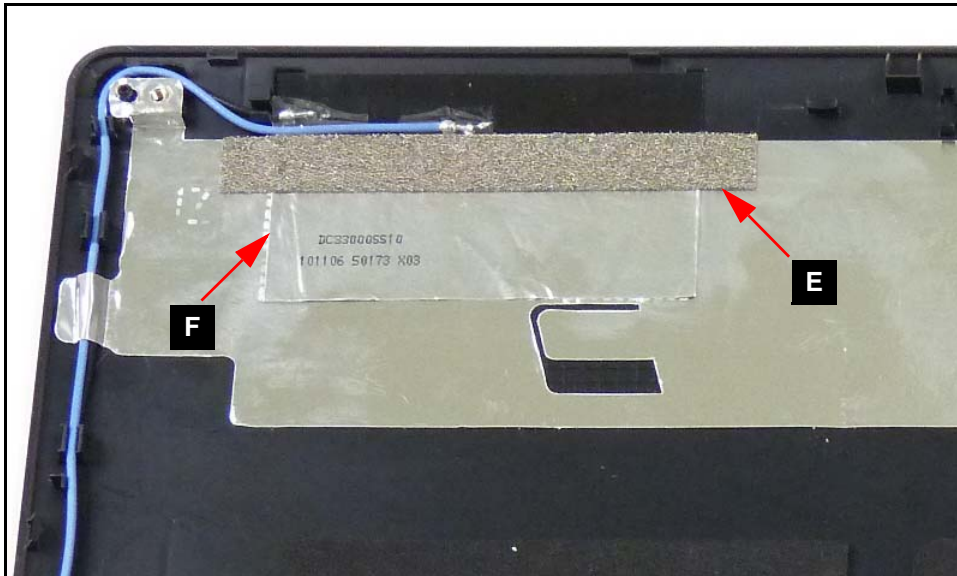

Figure 3-65. 3G and WLAN EMI Foam and Aluminium Foil
2. Remove left WLAN and 3G antennas (B) from cable guides.
3. Remove EMI (Electromagnetic interference) foam (E) and aluminium foil (F) covering left WLAN and 3G antennas from LCD module cover. (Figure 3-65)
2. Secure EMI foam (E) and aluminium foil (F) covering left WLAN and 3G antennas to LCD module cover. (Figure 3-65)